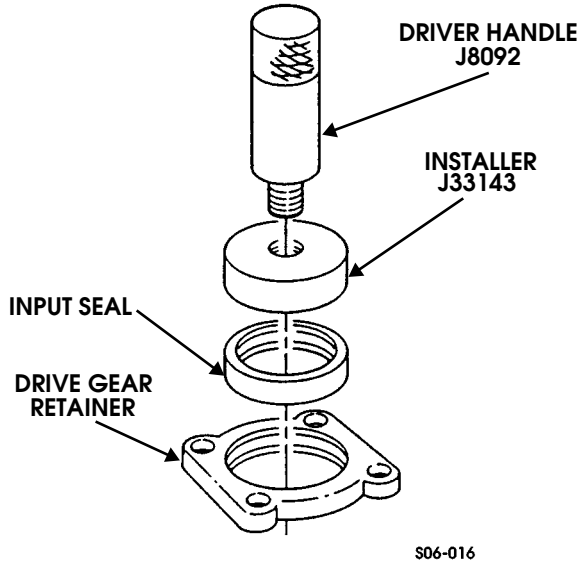

Figure 9-28: Input Seal Installation
- Ensure radius on outer diameter of input seal faces inside drive gear retainer. Using input seal installer J33143 and driver handle J8092, install input seal in drive gear retainer (Figure 9-28).